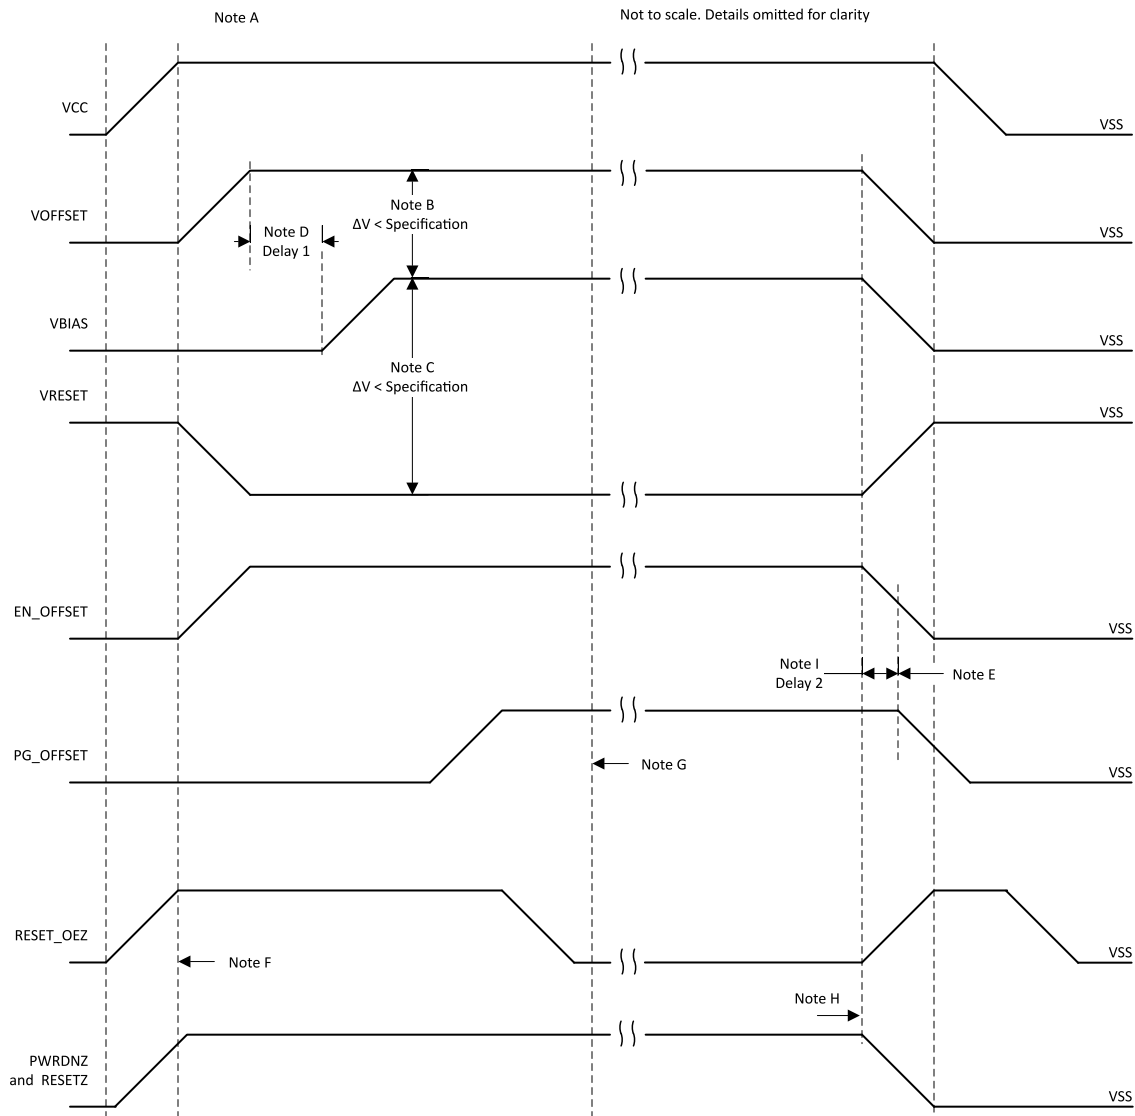

図 9-1. DMD Power Supply Requirements
For reliable operation of the DMD, the following power supply sequencing requirements must be followed. Failure to adhere to any of the prescribed power-up and power-down requirements may affect device reliability. See 図 9-1.
- Power supply slew rates during power-up are flexible, provided that the transient voltage levels follow the requirements specified in セクション 6.1, in セクション 6.4, and in 図 9-1.
- Power supply slew rates during power-down are flexible, provided that the transient voltage levels follow the requirements specified in セクション 6.1, in セクション 6.4, and in 図 9-1.